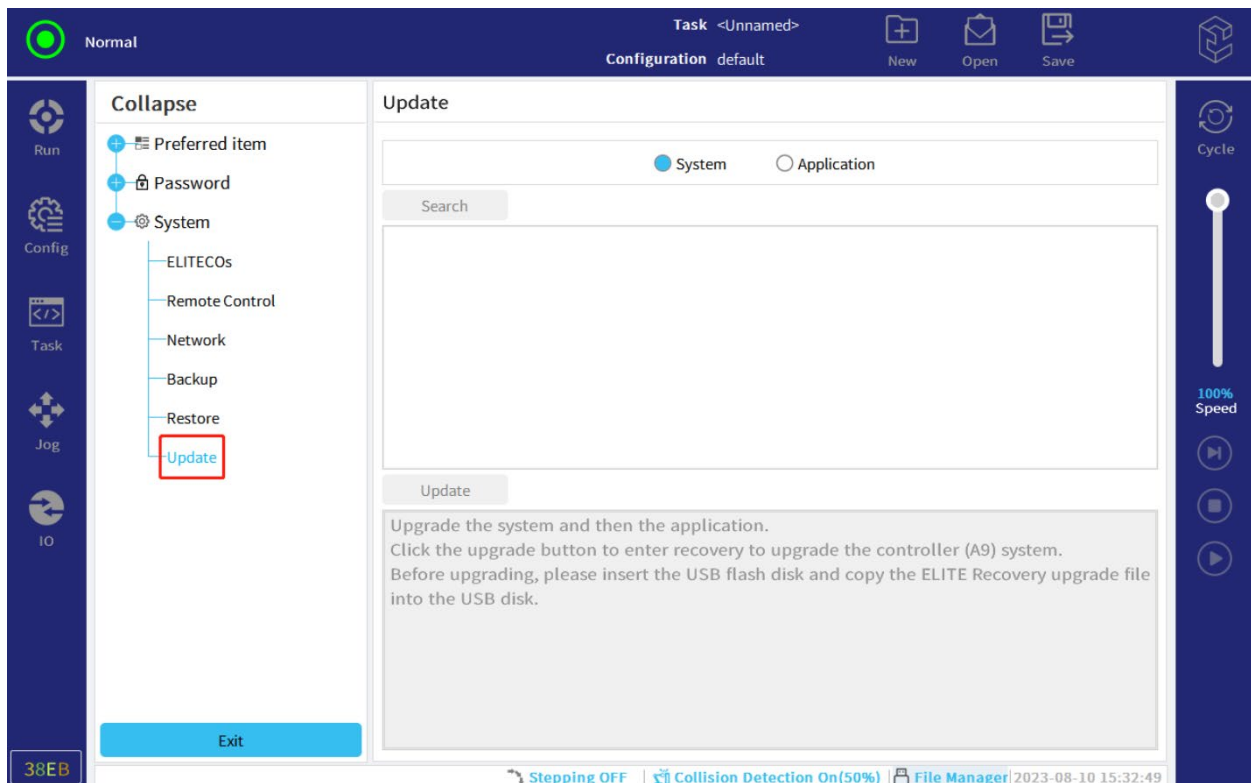

Figure 9-8 Update
2. Select "Settings > System > Update", as shown in Figure 9-8.